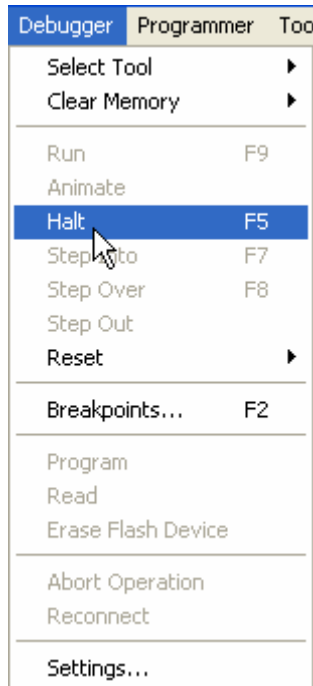

Figure 25: Halting the Execution of your Program
Step 5: If you would like to stop your project from executing, select “Debugger” -> “Halt” (Figure 25).